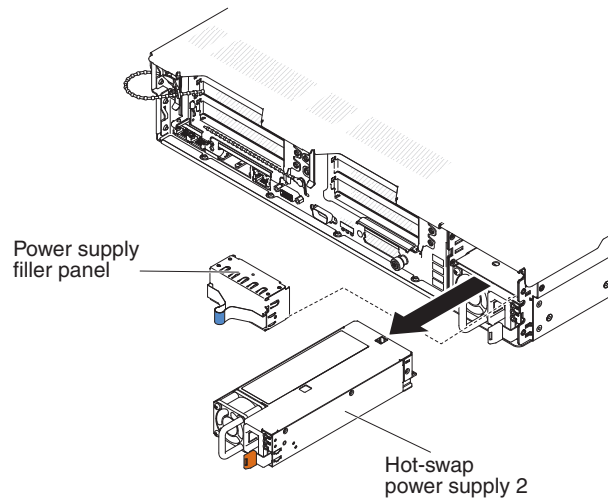

Figure 69. Removing a hot-swap ac power supply
4. Grasp the power-supply handle. Refer to Figure 69.